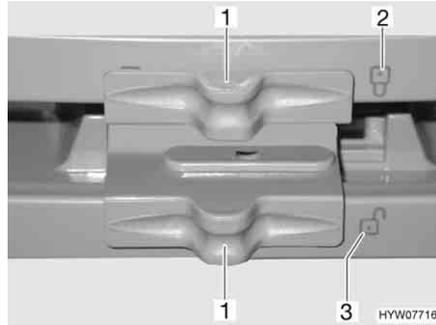

Fig. 223 Locking of the refrigerator door/freezer compartment door (Dometic 7 series with separate freezer compartment)
- Push the lock (Fig. 223,1) to the side, so that the open lock "🔓" (Fig. 223,3) is completely visible.
- Push the lock (Fig. 223,1) to the side, so that the closed lock "🔒" (Fig. 223,2) is completely visible.